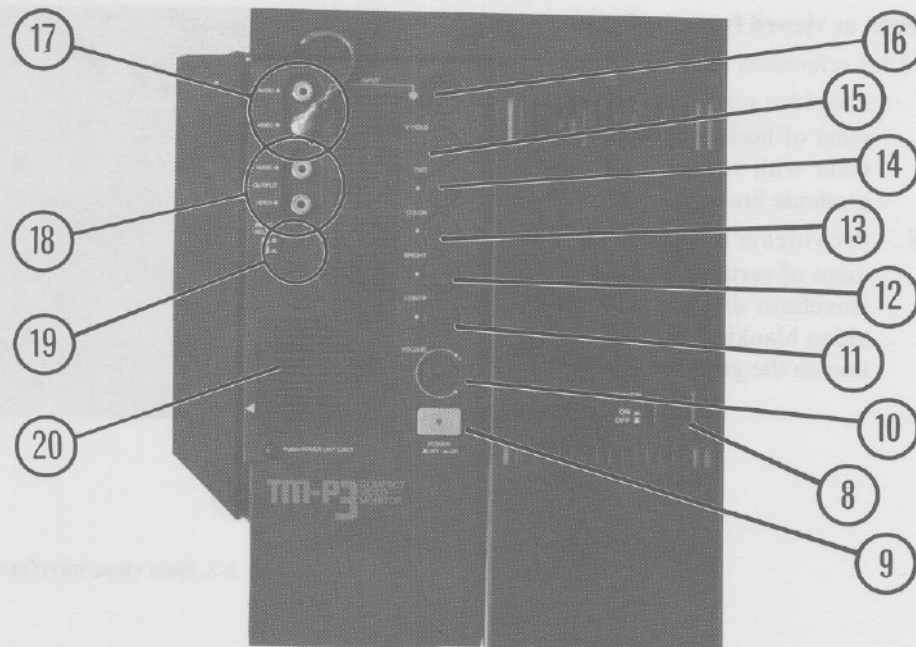

Figure 2-2. Top panel
Refer to Figure 2-2 for references (8) to (20).
- ⑧ POWER OFF-ON switch Push to switch on the waveform monitor section. Push again to switch off. The red PWR LED (4) glows when power is on.
- ⑨ POWER OFF-ON switch Push to switch on the picture/sound monitor section. Push again to switch off. One of the red LED's (3) on the front panel glows when power is on.
- ⑩ VOLUME control Turn clockwise to increase volume.
- ⑪ CONTRAST control Turn clockwise to increase picture contrast. The control is detented at the normal setting for correct video levels.
- ⑫ BRIGHTNESS control Turn clockwise to raise picture brightness. The control is detented for normal brightness setting at average viewing conditions.
- ⑬ COLOR control Turn clockwise to increase color saturation. The control is detented at the correct setting for signals with the correct Y:C ratio.
- ⑭ TINT control Adjusts decoder phase for correct hues. The control is detented at mid-range for correct color for normal NTSC input signals.
- ⑮ V-HOLD Adjusts vertical scan frequency. Set as needed to prevent vertical rolling of the picture.
- ⑯ 6-pin CH-2 connector Accepts audio and video inputs to CH-2 via a six-pin connector supplied as a standard accessory.
- ⑰ Phono-type CH-1 jacks Accepts audio and video inputs to CH-1 via phono-type plugs. Note: The CH-1 video input jack is normally connected to the loop-through cable from the waveform monitor section.